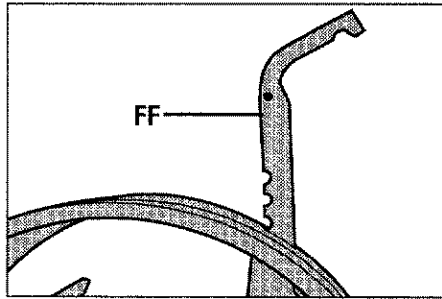

Fig. 2-8: Adjust Depth Regulator Lever.
1. With the tiller on level ground, pull the Depth Regulator Lever (FF, Fig. 2-8) back and then all the way up until the lowest notch in the lever is engaged.
2. With the tiller on level ground, move the Depth Regulator Lever (FF, Fig. 2-8) up or down until the engine is level.